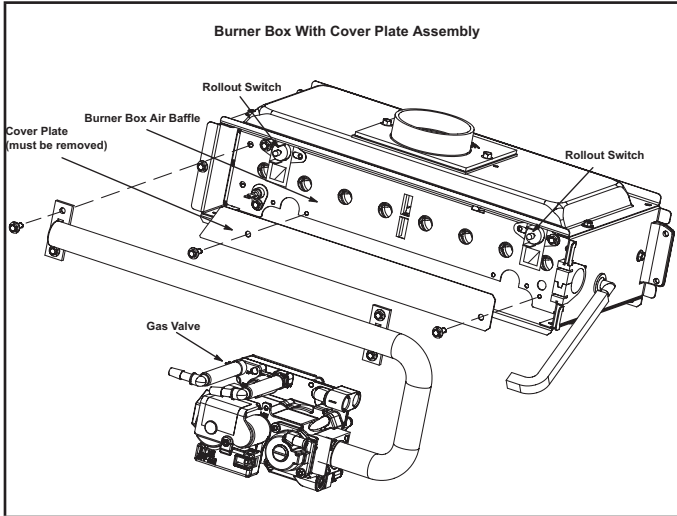

FIGURE 1
- 5 - Remove the screws that secure the manifold to the burner box. Remove the manifold/valve assembly from the unit. **Remove the cover plate from the burner box air baffle and discard.** See "FIGURE 1".